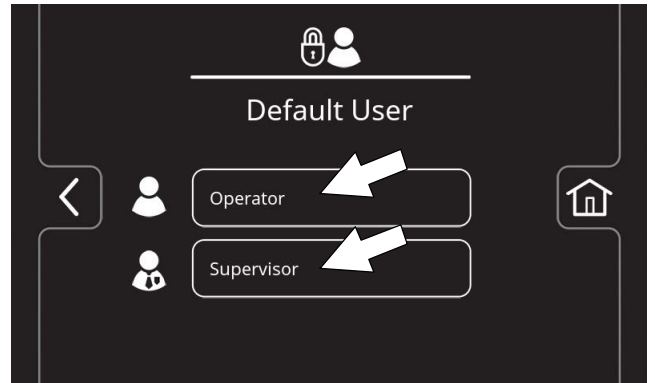

FIG. 195
6. Press either the Operator button or Supervisor button to select desired user profile as your home screen default without login (Figure 195).